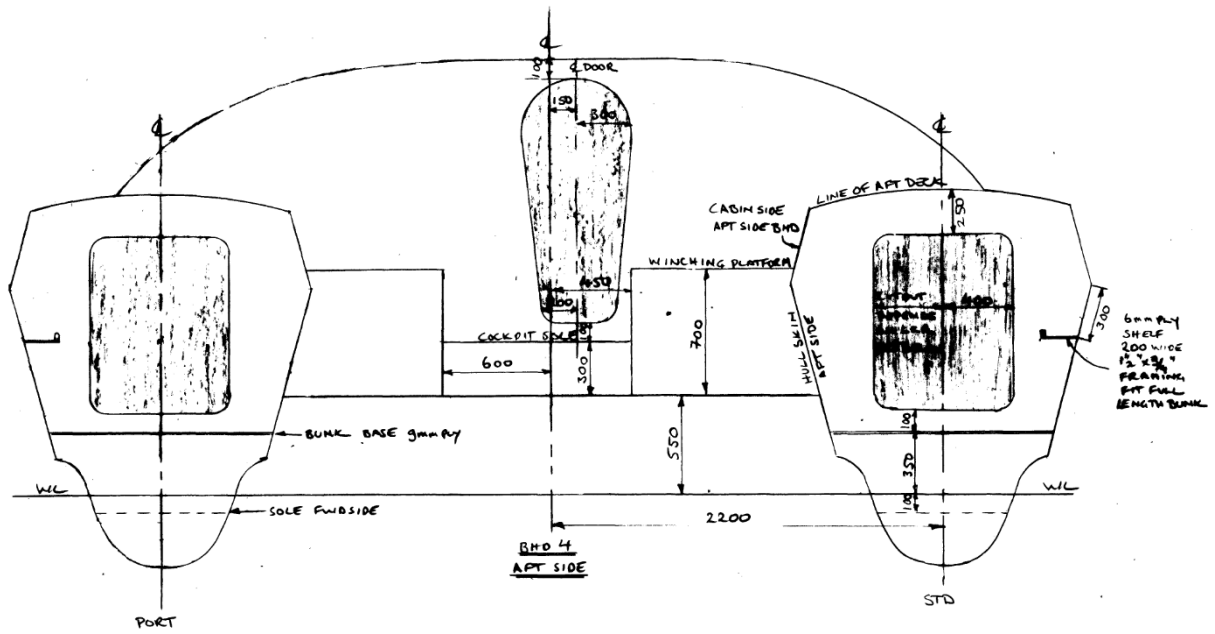

Figure 13: Bulkhead 4 Plans
- Figure 13: Bulkhead 4 Plans;